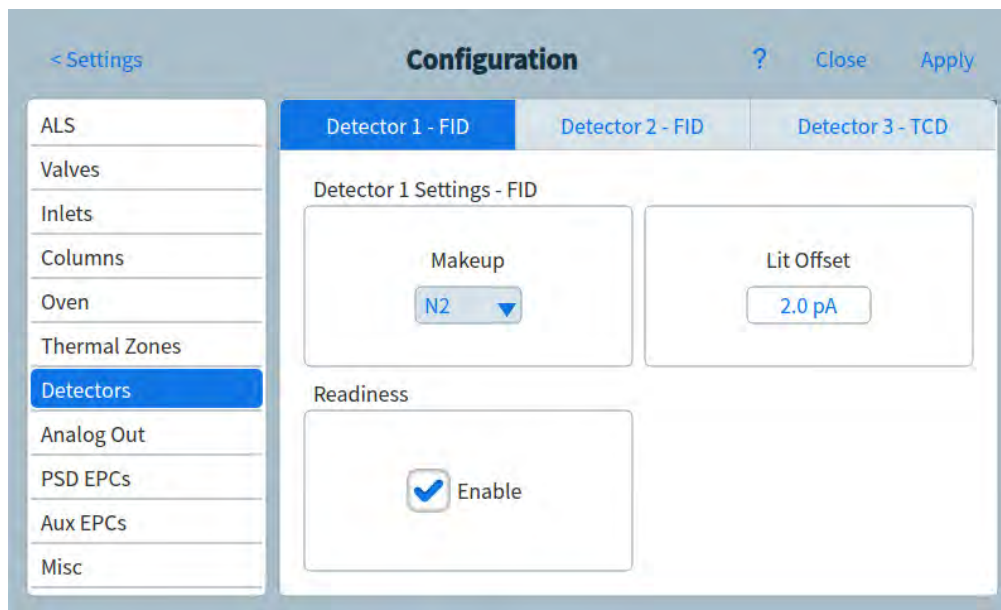

Figure 62. Detectors page
- 1 Select **Settings > Configuration > Detectors**, then select the tab for the detector to configure. See **Figure 62**.